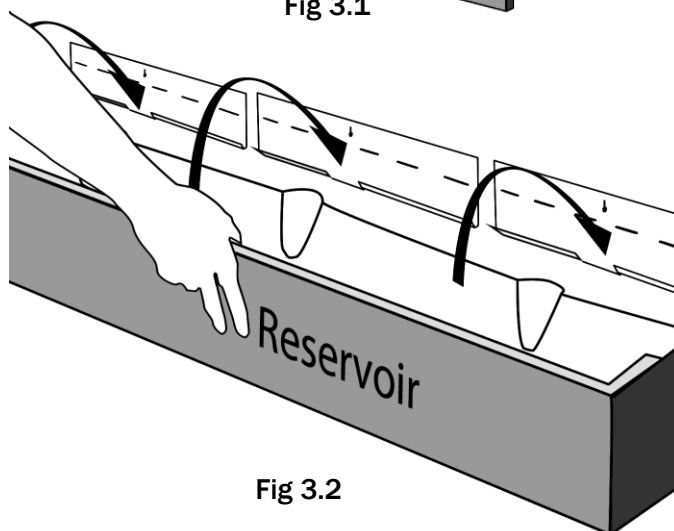

Fig 3.2
2. Hang the reservoir (L) on the 3 reservoir wall brackets (D). Make certain the reservoir (L) is well seated and centered on all 3 Reservoir Brackets (D) (Fig 3.2). The 3 Bump-Outs on the back of the Reservoir (L) correspond with the cut outs on the Reservoir Brackets (D).